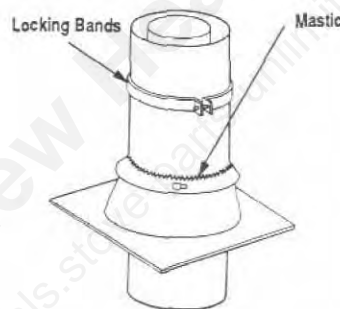

Figure 33
**Step 9.** Superior locking band, Model 10LB, may be required if the chimney extends too high above the roof flashing. As a general rule, if the chimney extends more than 6' (1.8m) above the roof/flashing, the use of locking bands is advisable to strengthen the chimney joints. Align the locking band at the pipe joint. Locking bands wrap around pipe joints equally covering the joints of both pipe sections. Use nut provided and TIGHTEN snugly. Do not over tighten as this might damage chimney section (Figure 33).